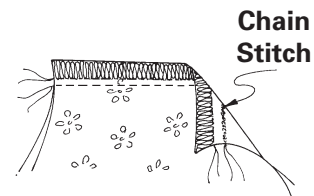

Fig. 23-4
- ❑ If your serger can make a chain stitch, use it with an overedge stitch. (Fig. 23-4)